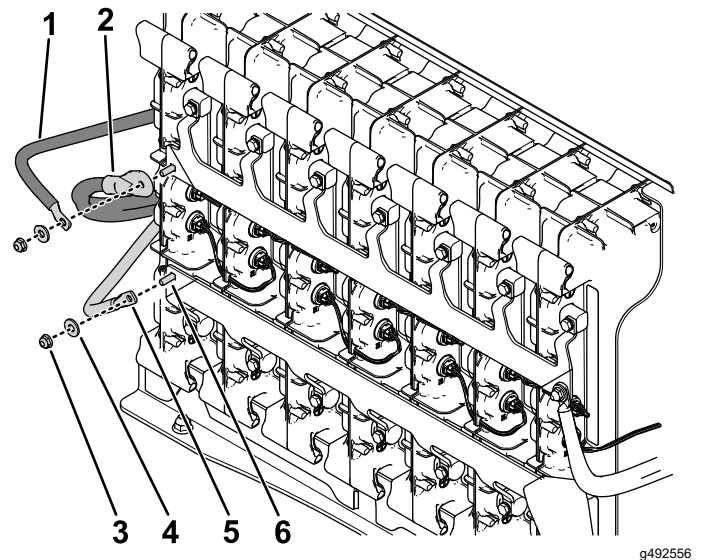

Figure 6
6. Use 2 carriage bolts (1/4 inch), washers (1/4 inch), and 2 locknuts to connect the red and black battery cables to the bus bars at the rear battery tray as shown in Figure 6.
Note: The black battery cable in the kit is installed on top of the existing black battery cable on the machine as shown in Figure 6.